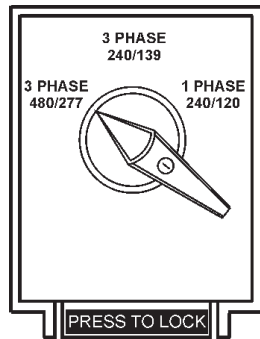

Figure 27. Voltage Selector Switch 480/277V Three-Phase Position
1. Place the voltage selector switch in the 3Ø 480/277 position as shown in Figure 27.